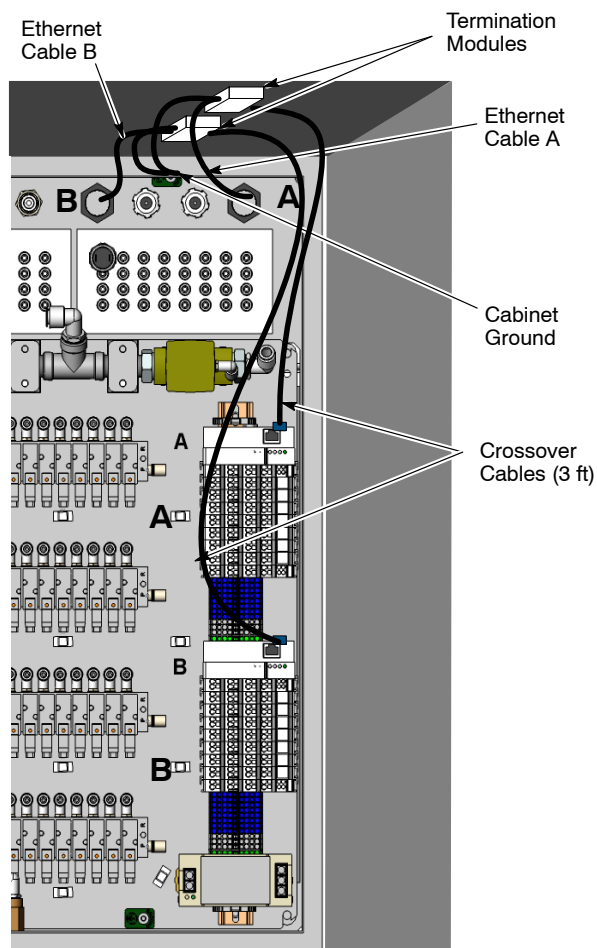

Figure 9 Ethernet Cable Termination Inside Color Control Panel
11. See Figure 9. Install the termination modules under the top side of the enclosure.